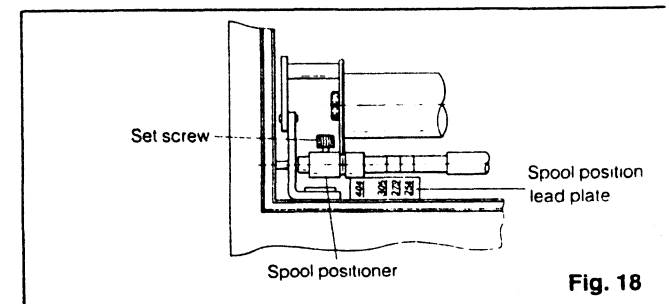

Fig. 18
- ① Turn the vacuum fan switch to the OFF position.
- ② Turn the shading mask knob as far as it will go to the left & to the fully open position — and open the master loading door.
- ③ Release the fook and gently open the photography section.
- ④ Loosen the set screw on the spool positioner and set it for the width of the master to be used 10", 11", 12", 15.9" (254, 279, 305, 404mm) (Fig. 18).